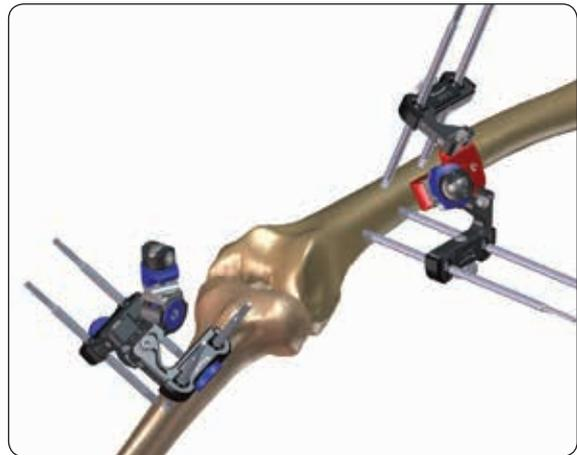

Fig. 17
**WARNING:** On the tibia, the system stability is guaranteed only with 4 screws coupled with the Large Tibia Clamp in each bone segment (Fig. 17).